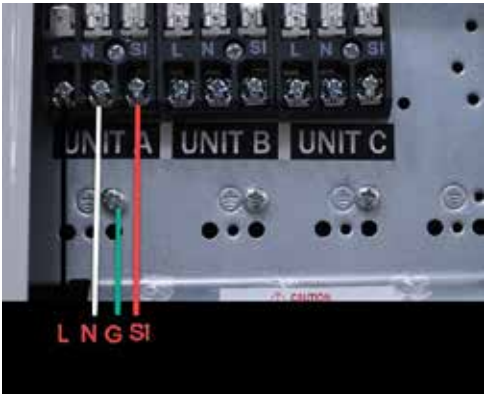

Figure 8.2
- 2. Run the communication cable from the A-zone, through the appropriate hole and connect the wires to the outdoor unit matching the wires to the terminal block. The wire marked L goes to L, wire N goes to N and wire SI goes to SI on the terminal block. Then the ground wire goes to the metal plate below marked ground. (See Figure 8.2 on page 27)